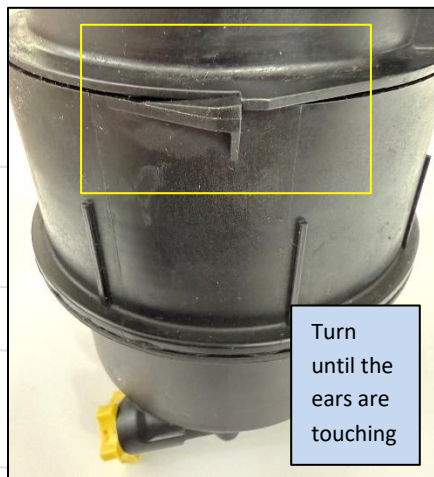

Figure 18: Fuel Module Locking Tab
9. **Install the cap by turning clockwise until it reaches the locking tab (Figure 18)**
- c. If you try to tighten the cap past the lock tab shown in Figure 18, you may crack the housing and cause an air leak on the suction side of the supply pump.